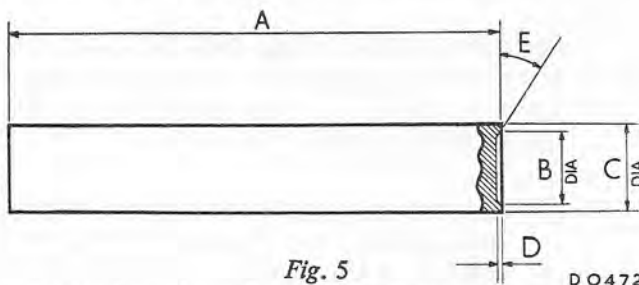

Fig. 5
- (1) Remove the air pump.
- (2) Remove the pump pulley.
- (3) Pass a ½-in. diameter soft metal drift through the pump discharge connection so that it registers against the relief valve, and drive the valve from the pump.
- (4) Fit a new copper seating washer to the new relief valve and enter the valve into the pump body.
- (5) Using a tool made to the dimensions shown in Fig. 5, drive the valve into the pump until the copper seating washer is held firmly, but not compressed, between the valve and the pump.
- (6) Refit the pulley and refit the air pump.